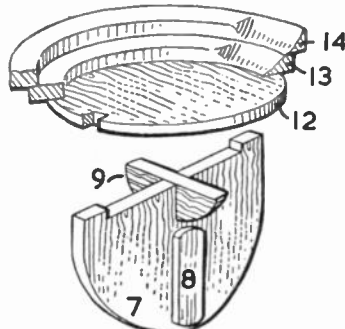

Fig. 3
(14) and (13) together. At this stage you should shape the insides of these pieces. A suggestion for this is given in Fig. 3, and gives the shape of the inside of the pan. When you have shaped them all round you can glue them to pieces (12) and then, when the glue has set, shape round the outside in a similar manner.
The pans can now be fixed to piece (7) and the supporting bracket (9), or, if you prefer it, they can be slipped into place without permanent fixing. Fig. 3 shows a cut-away view of the pan and supporting pieces.